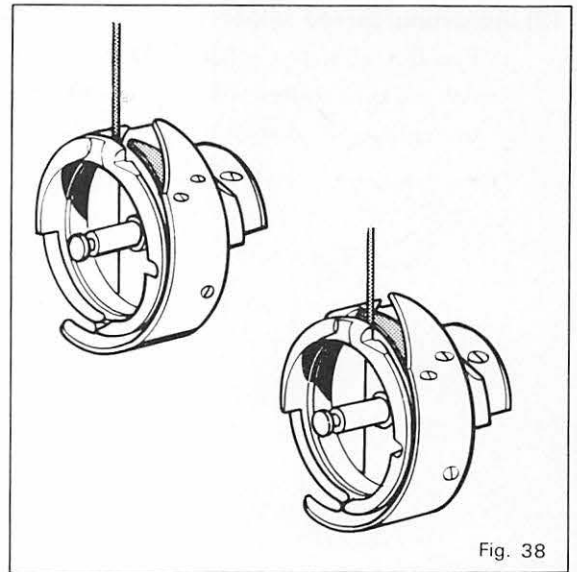

Fig. 38
1. In case of setting prior to correct timing, the knife trims threads in advance. Setting excessively prior to correct timing, the angle between pin ⑬ of cam and projected portion ⑭ of clutch is so small, in this result, prior to the pin's climbing up, projected portion of clutch passes pin, clutch will function after one rotation of the lower shaft and needle will hit the knife. So that, please be careful on this adjustment. (Figs. 38 & 39)